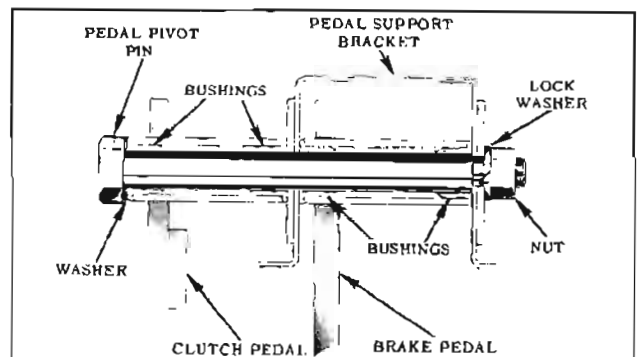

Fig. 11-304 Clutch Pedal Support
**Installation (Fig. 11-304)**